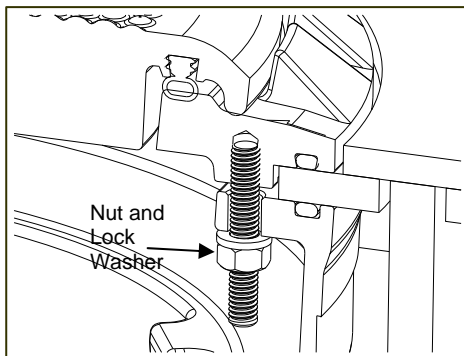

Figure 5
15. Thread nut and lock washer onto studded mounting ring. Tighten the mounting ring retaining bolts until the containment bucket o-rings makes contact with the multi-port cover. Then, in a crossing pattern, torque the bolts down between 15 to 20 ft.-lbs. 6 Point Ratcheting box wrench is recommended (See Figure 5.)